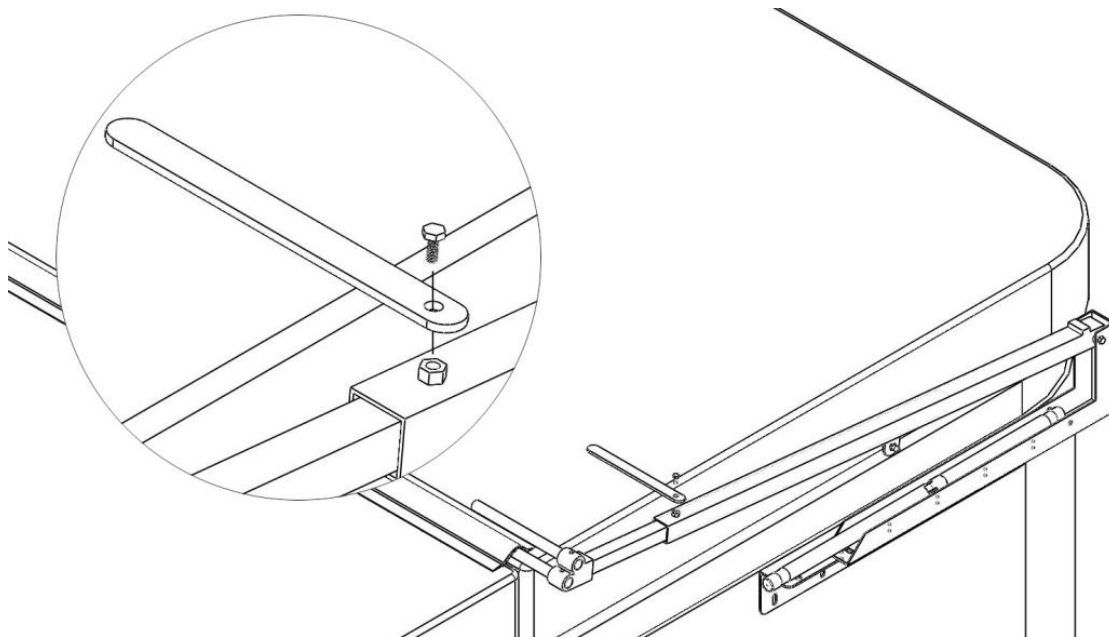

Figure 14
14. Prior to this step, ensure that the cover is centered on the spa (as if closed for the evening). Securely fasten the Stabilizer Bars (cvFF) **and** the Extension Arms (cvDD) to the Pivot Arms (cvCC) with the Medium Hex bolts (cvD). Tighten the bolts to the pre-installed nut on the Pivot Arms (cvCC) just enough so that the Extension Arms (cvDD) will no longer slide in the Pivot Arms (cvCC) and the Stabilizer Bar (cvFF) does not move freely. **Do Not Over Tighten the Bolts.** See Fig 14.